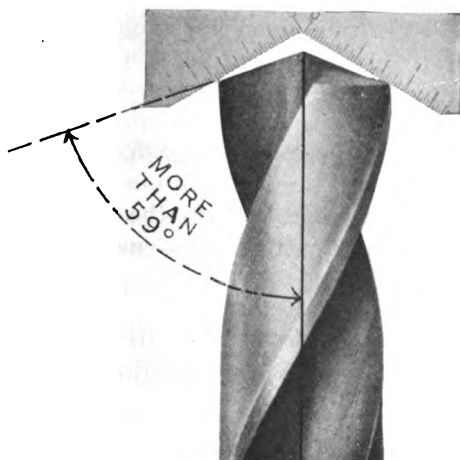

Fig. 14 — Incorrectly Ground Lips
- 34 If the angle of the cutting edges is *more* than 59 degrees as in Fig. 14, the drill will not center properly, because the cone-shaped "*Point*," which should hold it in position, will be too nearly flat to perform this work.